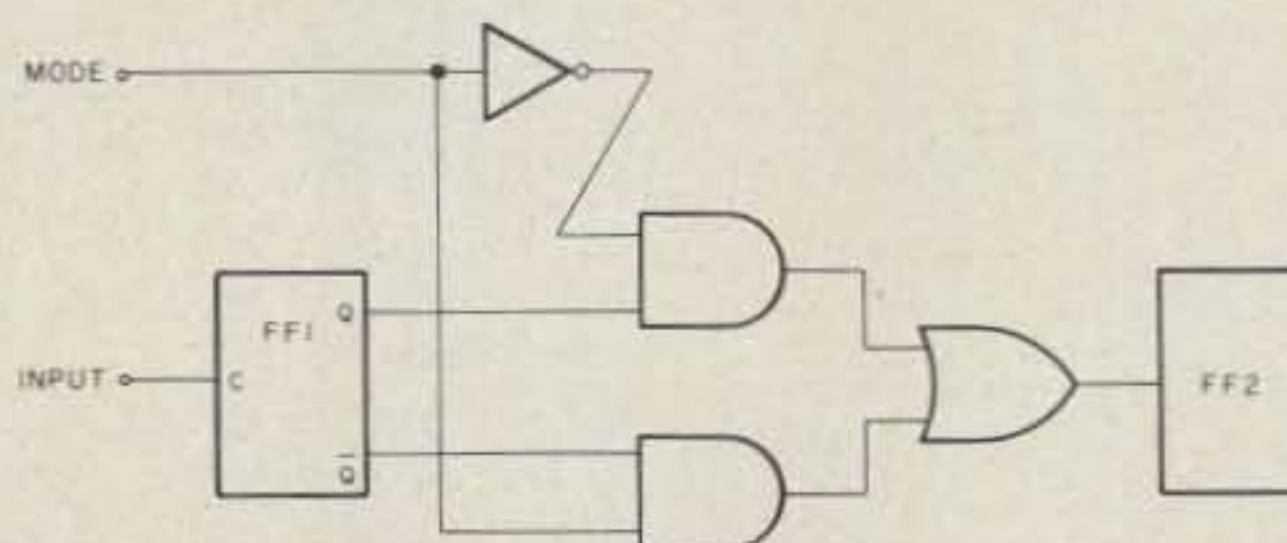

Fig. 15. A counter can offer the choice of up and down modes by adding logic.
**Up/Down counters.** Some counters will operate in both up and down modes, depending upon the logic level applied to a mode input. Fig. 15 shows a representative circuit in which the first two stages of a cascade counter are modified by the addition of several gates. If the mode input is HIGH, then the circuit is an up counter, but if the mode input is LOW, then the circuit operates as a down counter.